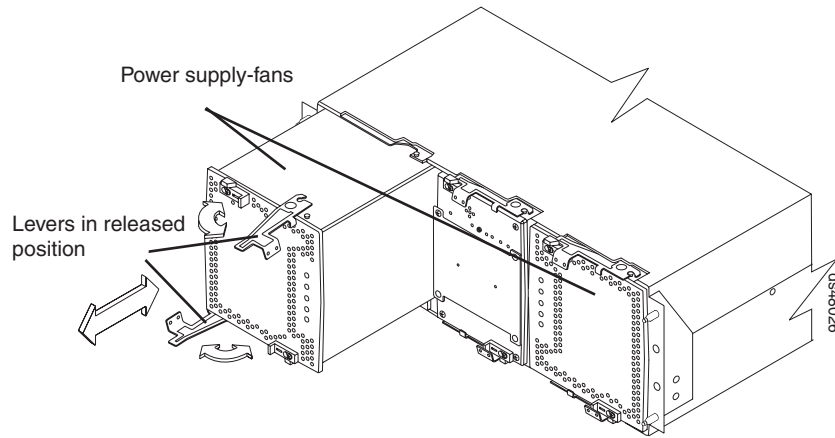

Figure 17. Removing the power supply-fans
3. Remove both power supply-fan units. Figure 17 shows the locations of the power supply-fans and the power supply-fan levers.